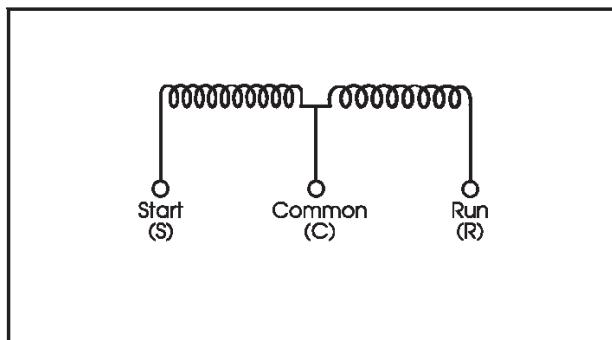

Figure 7
1. Single phase motors have a Start Winding, a Run Winding, and a Common connection between them. Therefore, the measurements are listed as: Start Winding: "C" (Common) to "S" (Start), and Run Winding: "C" (Common) to "R" (Run). See Figure 7.